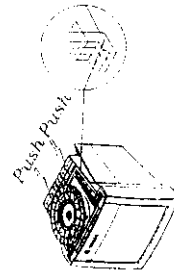

Figure 2
3. Push the tilt swivel and base in the direction of arrow (↔) as indicated in Figure 2 to lock the hooks.